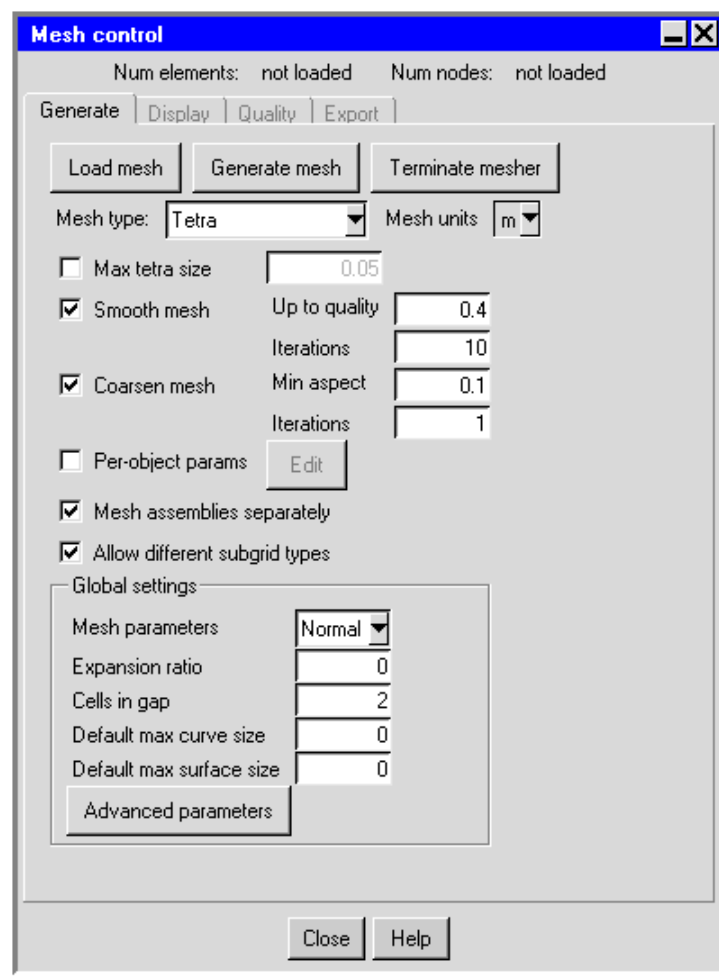

Figure 26.4.2: The Mesh control Panel for the Tetrahedral Mesher
1. Open the Mesh control panel (Figure 26.4.2) by selecting **Generate mesh** in the **Model** menu, or by clicking on the  button in the **Model** and solve toolbar.
1. Open the **Mesh control** panel (Figure 26.4.2) by selecting **Generate mesh** in the **Model** menu, or by clicking on the  button in the **Model and solve** toolbar.